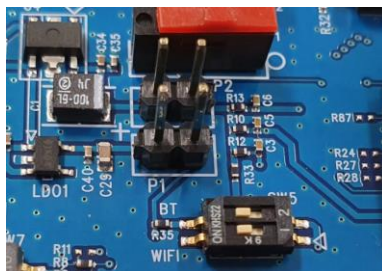

Figure 52: Setup DA16600 EVB Jumper
3. Open the DA16600 EVB's power two jumper caps as shown in Figure 52.